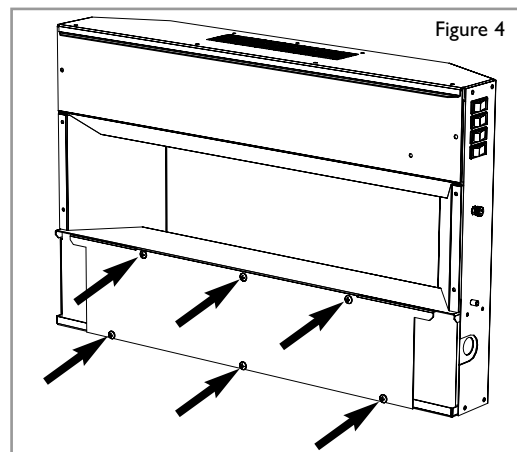

Figure 4
**Wall Fixings:** If the appliance is to be mounted on the inner leaf of a conventional cavity wall or a solid wall, drill three holes to a depth of 42mm using a 8mm masonry bit. Insert the wall-plugs provided. If the appliance is to be mounted on a dry lined wall or timber framed construction, then special cavity screw fixings will be required, that are not supplied with this product (see figure 3). Insert 3 x 40mm long fixing screws through the corresponding holes in the upper mounting bracket and into the upper three wall-plugs and tighten fully ensuring the bracket is horizontal and level. Now remove the six screws as shown in figure 4 and remove the lower panel. Temporarily hang the appliance onto the upper upper mounting bracket and using a pencil, mark through onto the wall the lower fixing hole in the centre of the appliance back panel. Remove the appliance from the upper fixing bracket and repeat the procedure for drilling the wall. Fix the appliance to the wall ensuring one fixing screw is now holding the appliance to the wall via this lower fixing position. Tighten fully. Replace the lower panel and replace the six screws shown in figure 4.
3. Remove the six screws as shown in figure 4 and remove the lower panel.
5. Replace the lower panel and replace the six screws shown in figure 4.